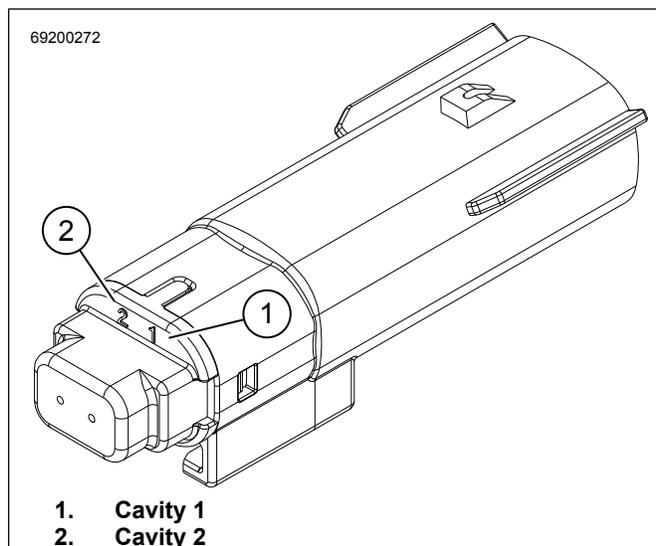

Figure 5. 2-Pin Connector 69200272
3. Figure 5 Install white/pink terminal pins into cavity 1 of connector [69200272].